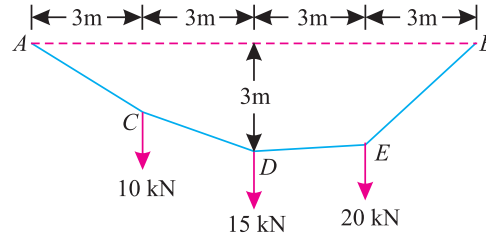

Fig. 15.3.
**Example 15.1.** Three loads of 10 kN, 15 kN and 20 kN are suspended from a string AB as shown in Fig. 15.3.